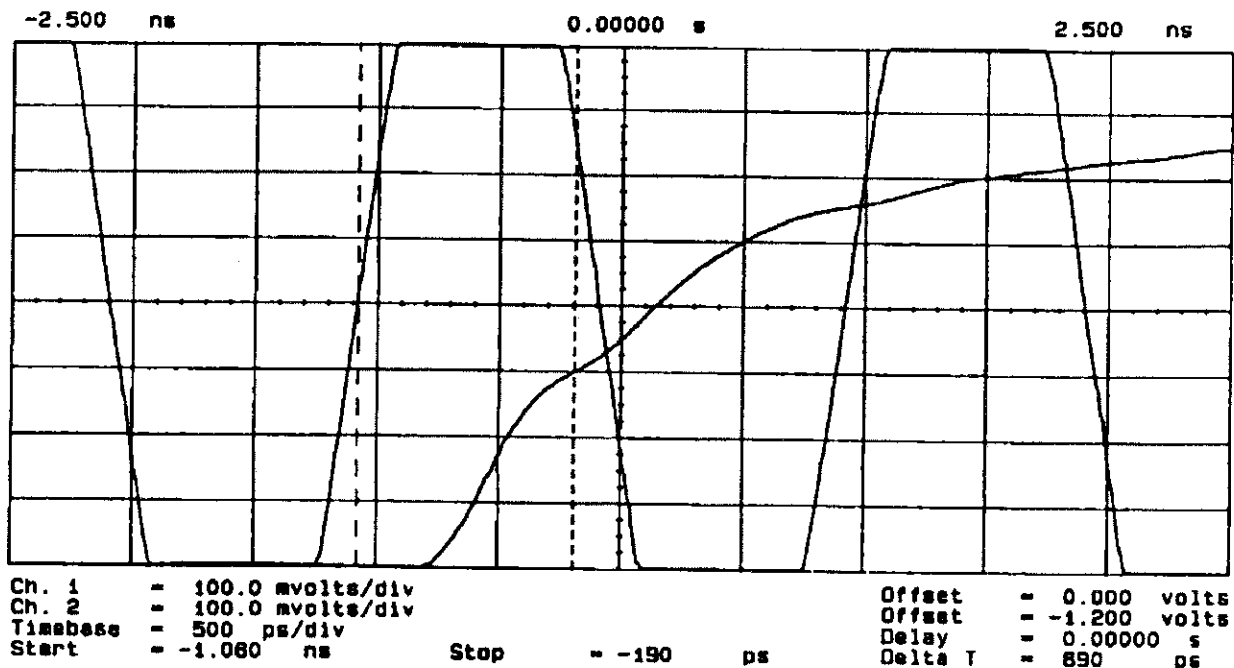

Figure 3-8. Oscilloscope Display of CI1 and CLKA
- The 54100A Oscilloscope displays the 500 MHz reference frequency (CLK A) on input channel 1, and the CI1 leading edge on input channel channel 2. The oscilloscope requires a few minutes to display the waveforms, which should eventually be similar to *Figure 3-8*.
14. The 54100A Oscilloscope should again display the CI1 and 500 MHz reference frequency (CLK A) signals as shown in *Figure 3-8*. Return to Step 2. Repeat this process until the measured time delay is within the limits listed in *Table 3-5*.